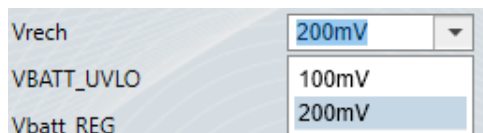

Figure 13: Battery Auto-Recharge Voltage Setting
9. Figure 13 shows the battery auto-recharge voltage setting. Set the battery auto-recharge voltage to VBAT_REG to 200mV (the range is 100mV to 200mV).